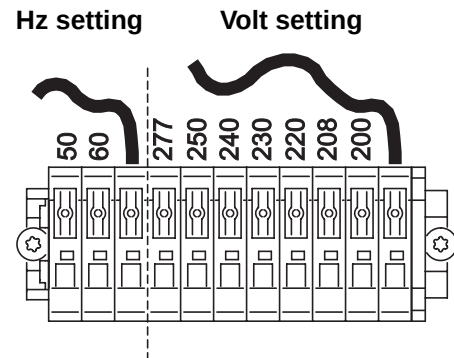

Figure 8: Frequency and voltage settings
3. See Figure 8. Connect the free end of the frequency setting jumper lead (in the section marked **Hz setting**) to the terminal labeled with the local AC power frequency.